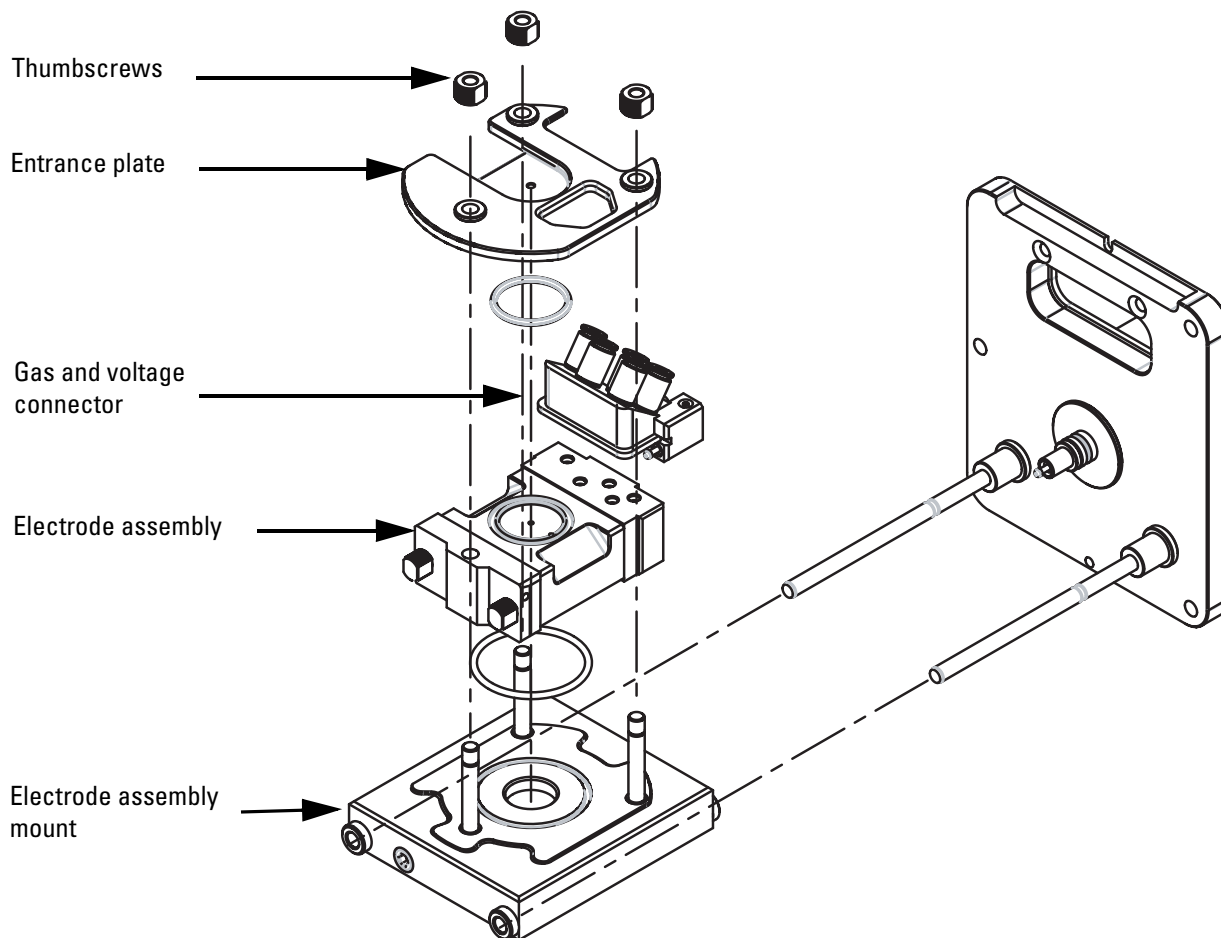

Figure 61. Exploded view of the electrode end of the FAIMS interface
An exploded diagram of the electrode end of the FAIMS interface is shown in Figure 61.
- a. Loosen and remove the three thumbscrews that secure the entrance plate to the electrode assembly mount, as Figure 61 shows.
Figure 61 on page 86 shows the locations of the FAIMS interface components.
4. Reinstall the entrance plate onto the electrode assembly and secure it with the three thumbscrews, as Figure 61 on page 86 shows.